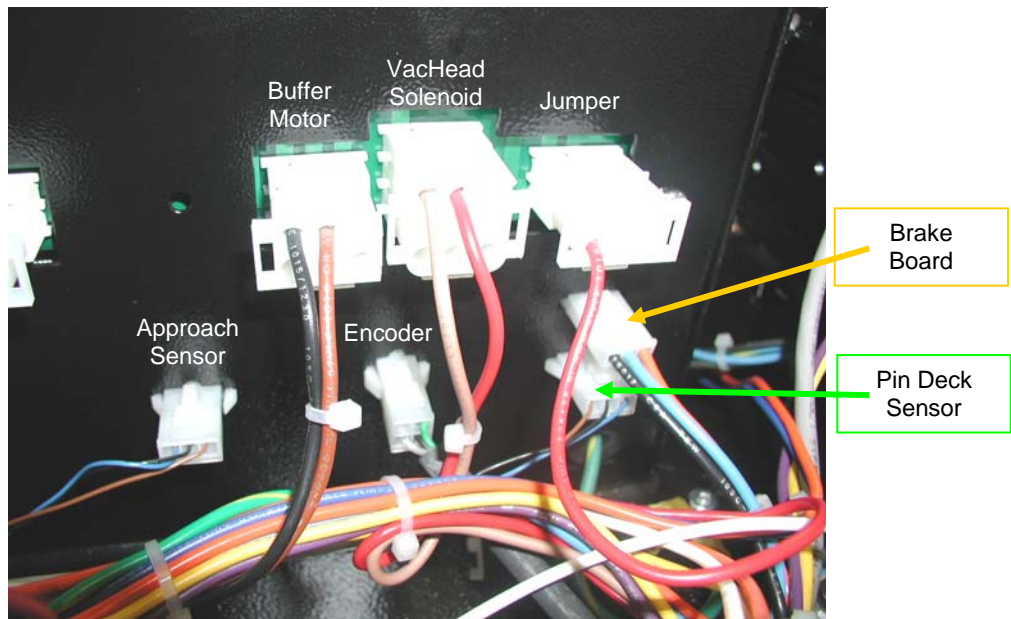

Figure 3-34
5. Follow the sensor wire through the hole in the side of the machine, to the wire harness, and to the connector at the back of the control enclosure. The connector is the third one from the right on the bottom row, as shown in Figure 3-34.